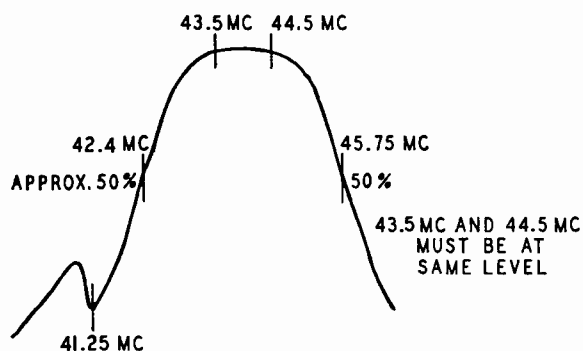

Fig. 4—Overall Pix I-F Response Curve
3. Set channel selector to Channel 13. Connect sweeper with very short leads through a 10 K mmf disc ceramic capacitor to mixer grid (I-F test point—see figure 5). Readjust sweep output for 4.0V P-P, adjust 41.25 mc trap (bottom of L-200) so that notch is at marker, adjust mixer plate coil (L-15 primary) and input grid coil (top of L-200) for maximum gain and symmetry with 45.75 mc marker at 50%. (Figure 4.)